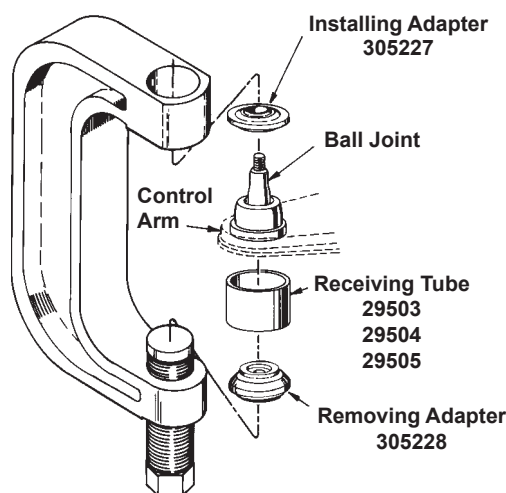

Figure 3
1. Assemble the ball joint press over the control arm as shown in Figure 3. Select the correct size receiving tube (Item 6, 7, or 8), and position it under the vehicle ball joint as shown.